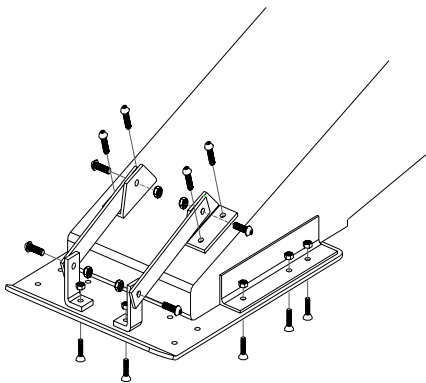

Figure 4
FOR KING PIN BOXES WITHOUT FLANGES: (Figure 4)
4. If the Trailer Plate {J2} extends beyond the King Pin Box, then install the Knee Braces as shown in Figure 4.